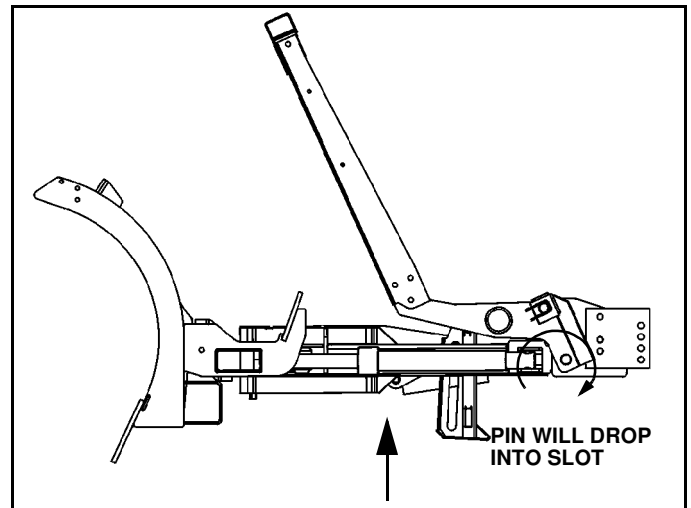

Figure 1-20
3. Rotate light/lift bar into position by turning on down pressure and pressing the lower button. (See Figure 1-20).